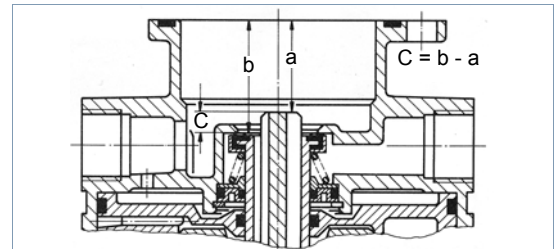

Fig. 3 Dimension C
- Measure dimensions a and b (see fig. 3), dimension $C = b - a$.